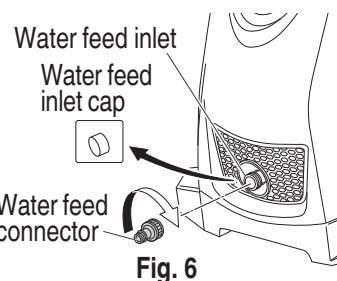

Fig. 6
1. Attach the water feed connector to the water feed inlet on the washer (Fig. 6)